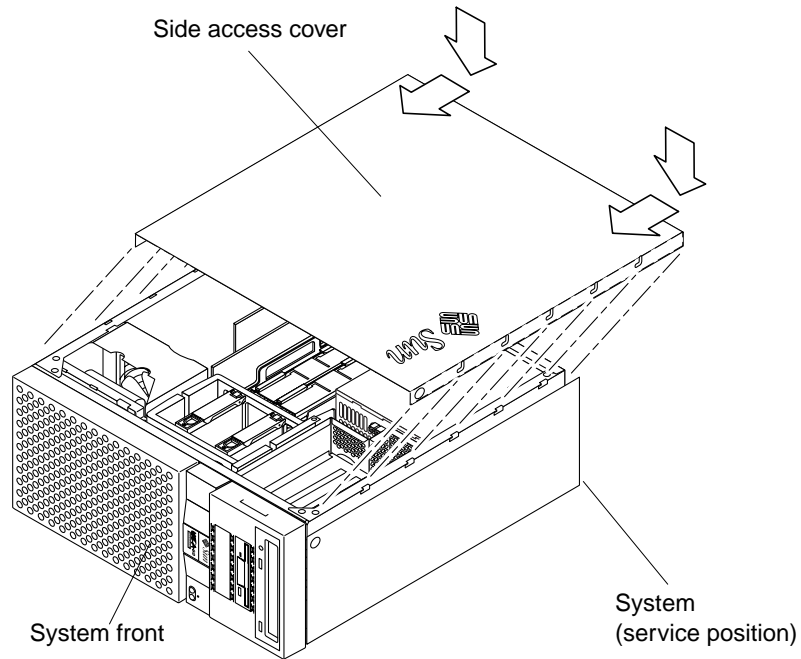

FIGURE 3-5 Replacing the Side Access Cover
1. **Position the side access cover (see FIGURE 3-5).**